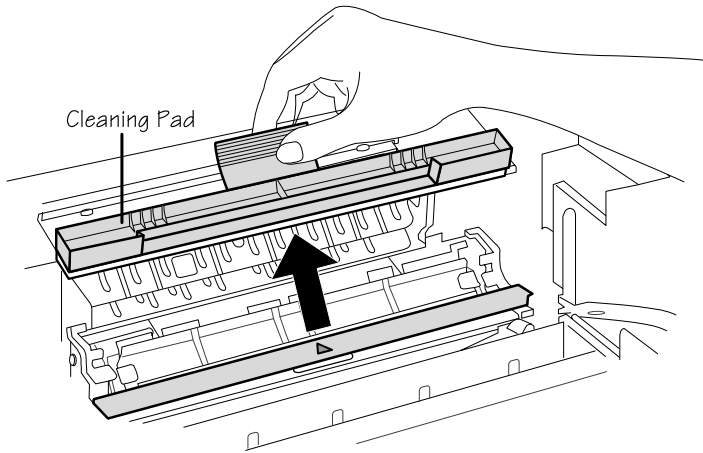

Fig. 6.3 Remove the Cleaning Pad
5. Locate the cleaning pad in the slot above the heat roller. Then, while carefully avoiding the surface of the fuser unit, which may be hot, grasp the pad by its center tab (towards the rear of the unit), pull it out of the printer, and discard it (fig. 6.3).